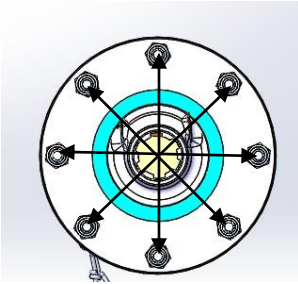

Figure 2
- Loosen the bolts on the clutch in a crossing pattern, Figure 2, until the clutch discs are loose but the bolts still hold them in place.